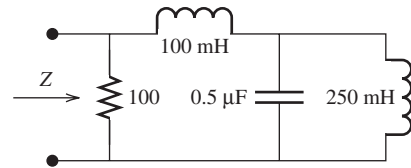

FIGURE P6.23 Circuit for Problem 6.23.
- 6.23** (A) If $\omega = 60$, find Z in Figure P6.23.